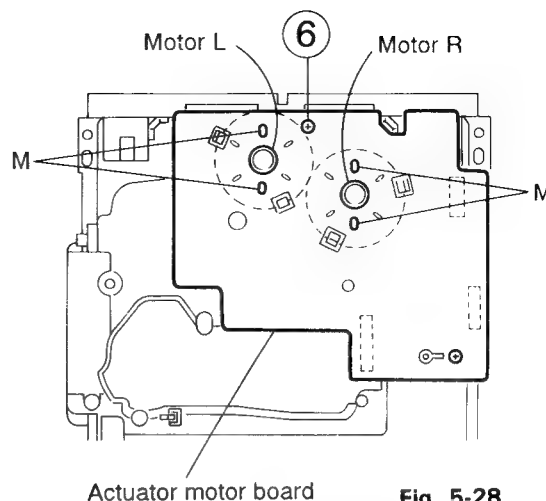

Fig. 5-28
(See Figs. 5-28 and 5-29)
1. Absorb the four soldered positions (N) of the right and left motors with a soldering absorber (See Fig. 5-28).
3. Remove the one screw (11) retaining the bracket (See Fig. 5-28).